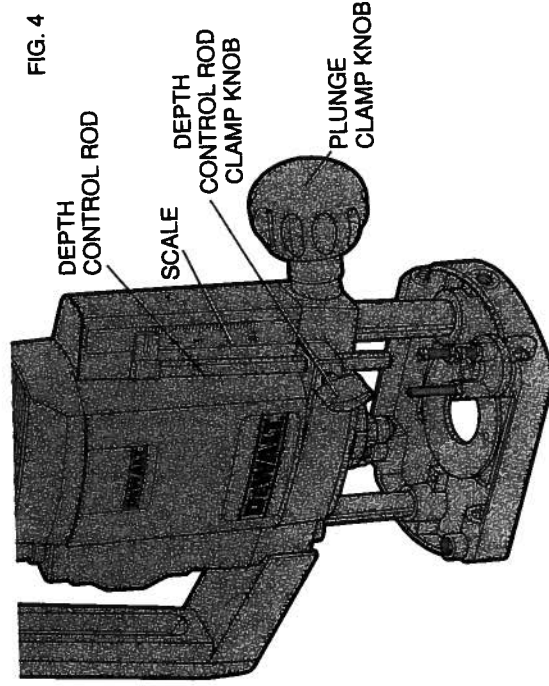

FIG. 4
### Plunge Clamp Knob (Fig. 4)
2. Loosen the Depth Control Rod Clamp Knob and raise the Depth Control Rod so that the red indicator line is at the 2 inch mark on the scale, as shown in Figure 4.